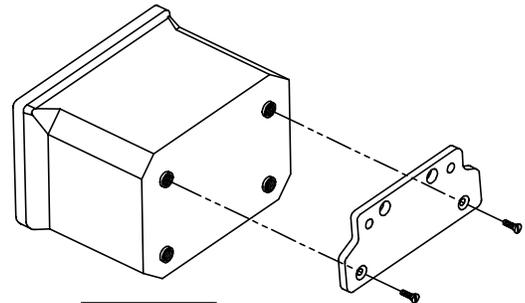

Figure 15
1. Securely fasten both mounting brackets (included with the 6508) to the back of the 6508 Junction Box with the mounting screws (included) as shown in Figure 15.